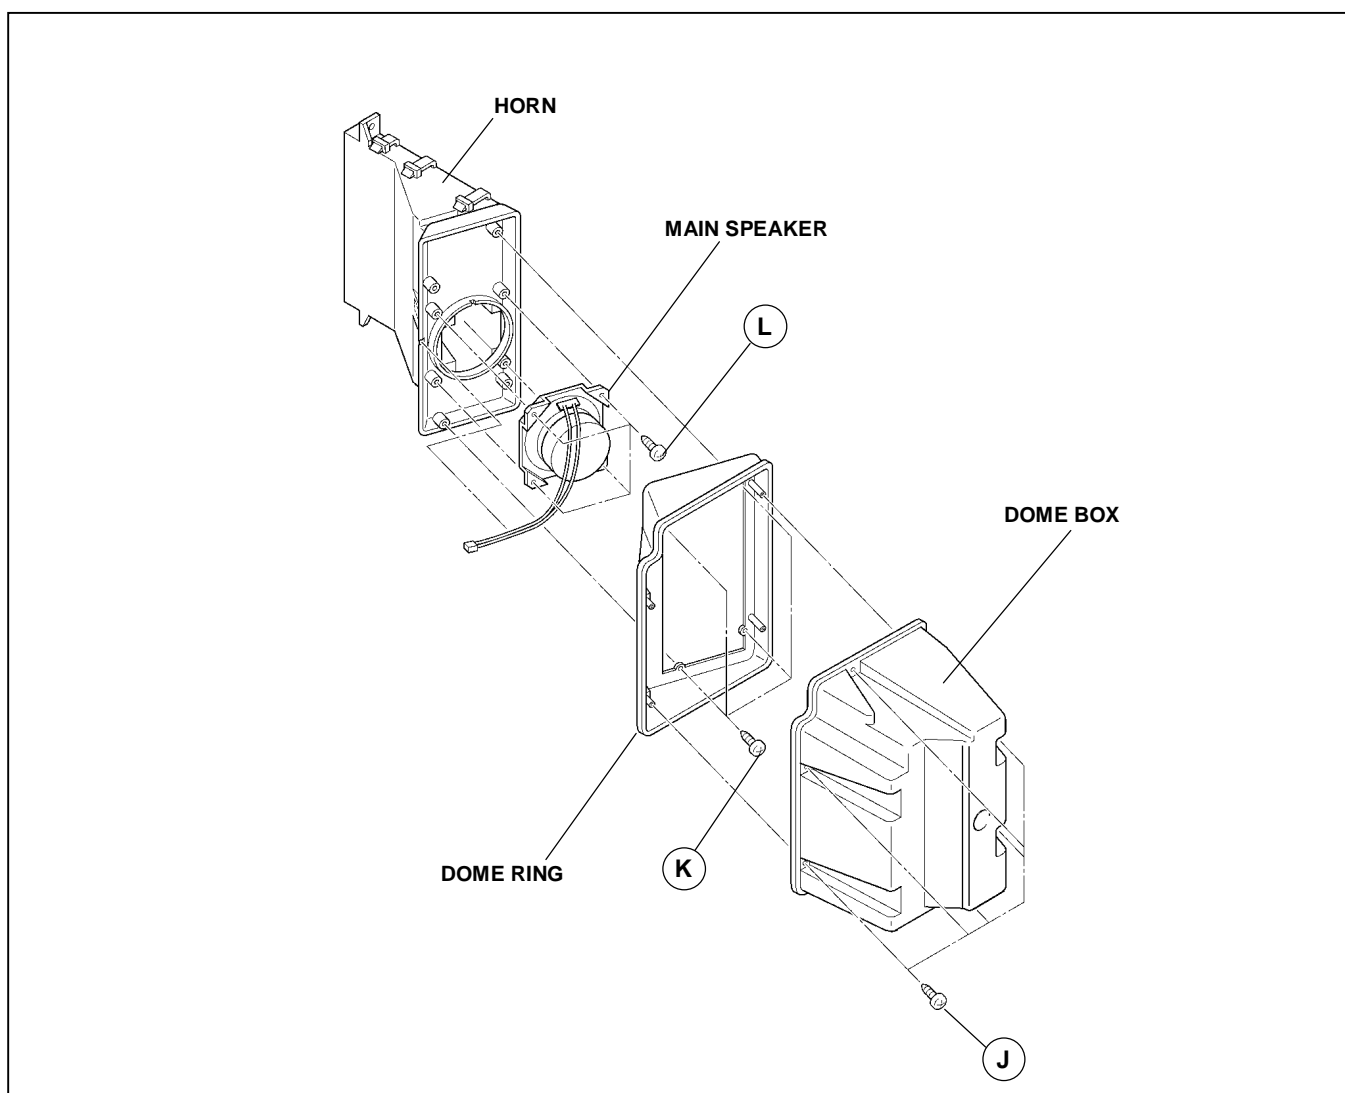

Fig.3
1. As shown in Fig. 3, remove the 6 screws marked **J**, and remove the dome box.